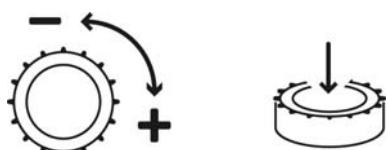

Fig. 11: Operation of the operating knob
n=f(AI) (manual control mode – see Fig. 11)
- The **LCD** shows the operating statuses of the pumps, the controller and the frequency converter. The menu selection and parameter input are performed using the operating knob. Turn the knob to change values or to scroll through a menu level; press it in order to select and confirm (Fig. 11).